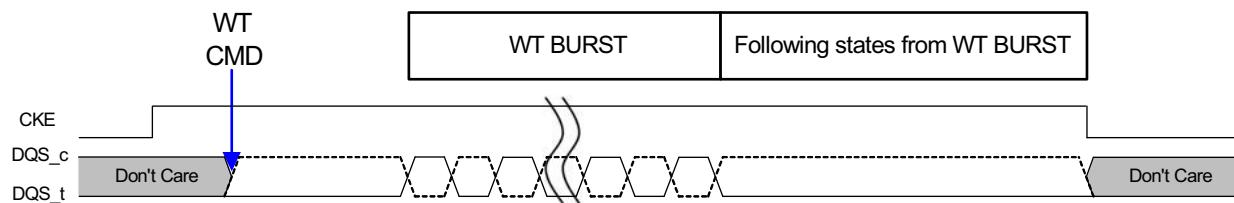

Figure 32 — WDQS Control Mode 1 - Read Based Control
3. When CKE is low, the state of DQS\_t and DQS\_c is allowed to be “Don’t Care”. (Figure 32)